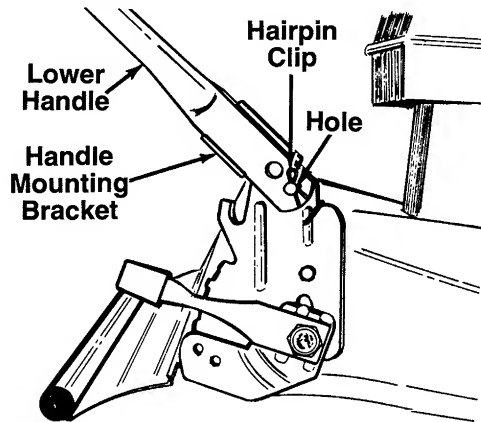

FIGURE 1.
- ← 3. Using a pair of pliers, squeeze one leg of the lower handle against the handle mounting bracket. Insert the hairpin clip into the hole on the weld pin. See figure 1. Repeat on other side.